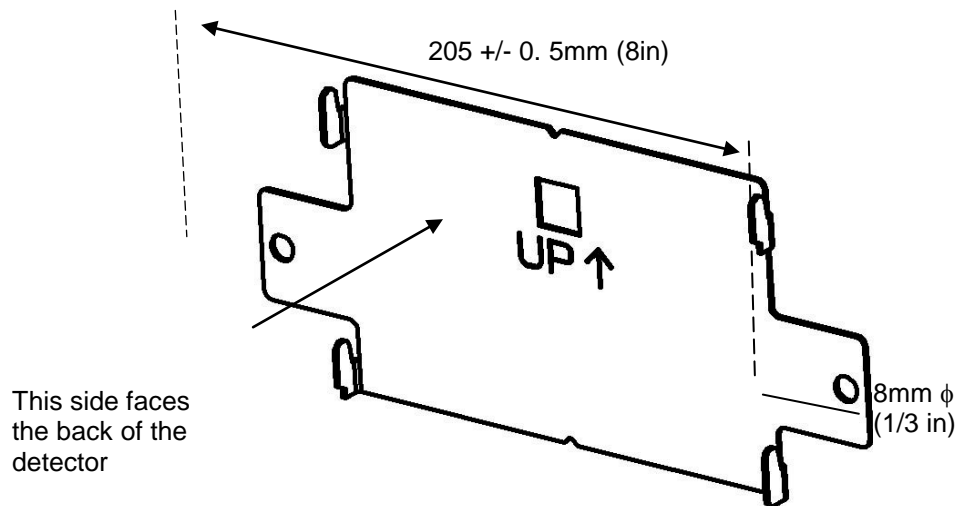

Figure 5 Hole Dimensions and Orientation of Mounting Bracket
- (a) Place the mounting bracket onto the surface and mark out the two mounting screw holes. Refer to Figure 5 for dimensions. Use a spirit level to ensure the bracket is level.